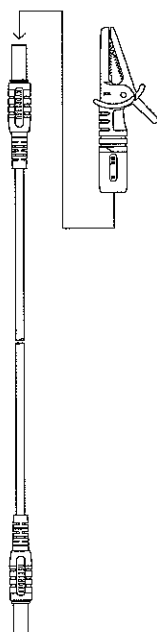

Fig. 4
(1) Unscrew and remove ① shown in Fig.4 and remove the Tip pin.
(2) Install the Long pin and tighten ①.